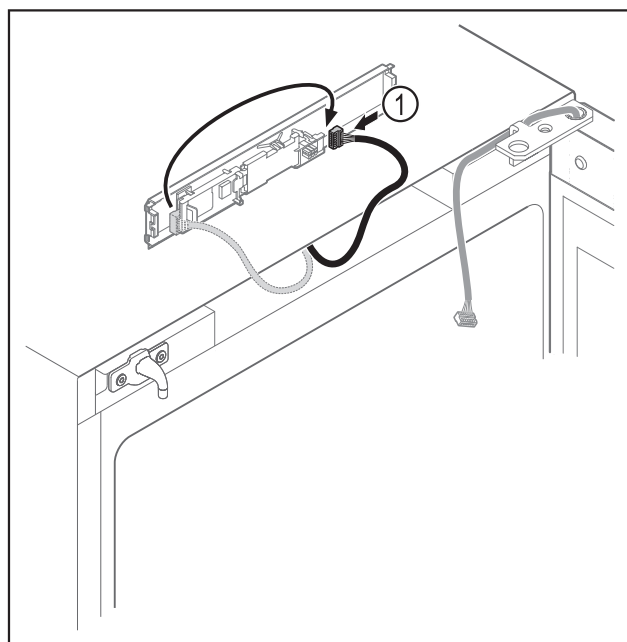

Fig. 13
- ▶ Connect the plug Fig. 13 (1) to the circuit board.